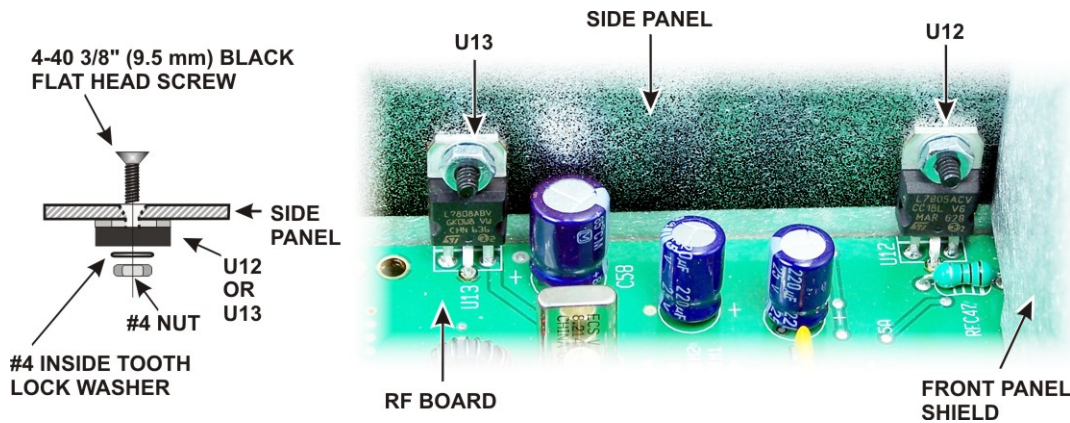

Figure 4. U13 and U12 Mounting Hardware.
☐ Remove the hardware securing the heat sinks of U13 and U12 to the right side panel (see Figure 4). Be careful not to lose the lock washers inside the K3.
- Replace the two 4-40 3/8" (9.6 mm) black flat head screws, lock washers and nuts to secure the heat sinks of U13 and U12 to the side panel as shown in Figure 4.